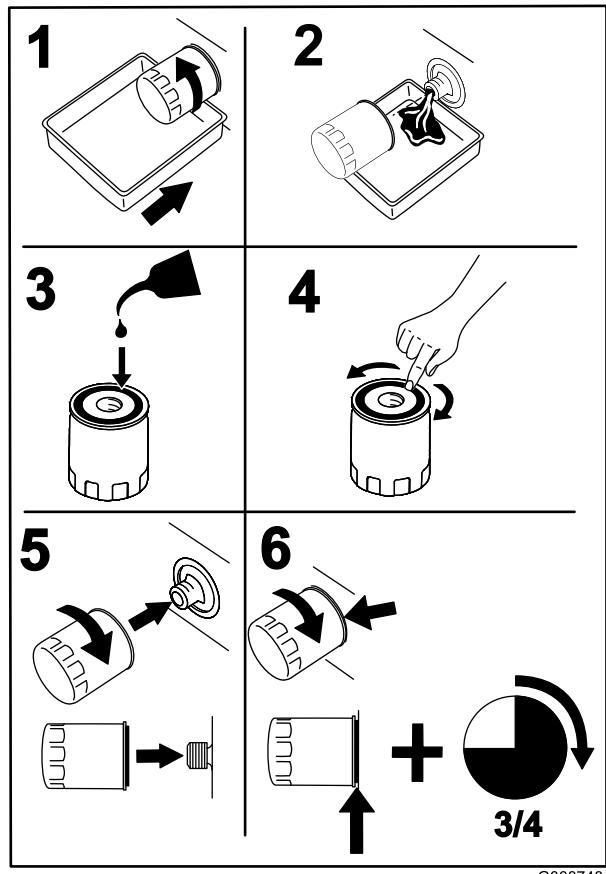

Figure 51
2. Change the engine oil filter (Figure 51).